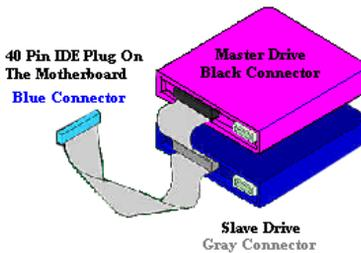

Figure 2-11. How to connect an ATA/66 Cable to the Motherboard
- Attach the BLACK connector to the mating plug on the master hard drive. Attach the GREY connector to the mating plug on the slave drive (secondary hard drive, CD ROM, or tape drive). Please refer figure 2-11.